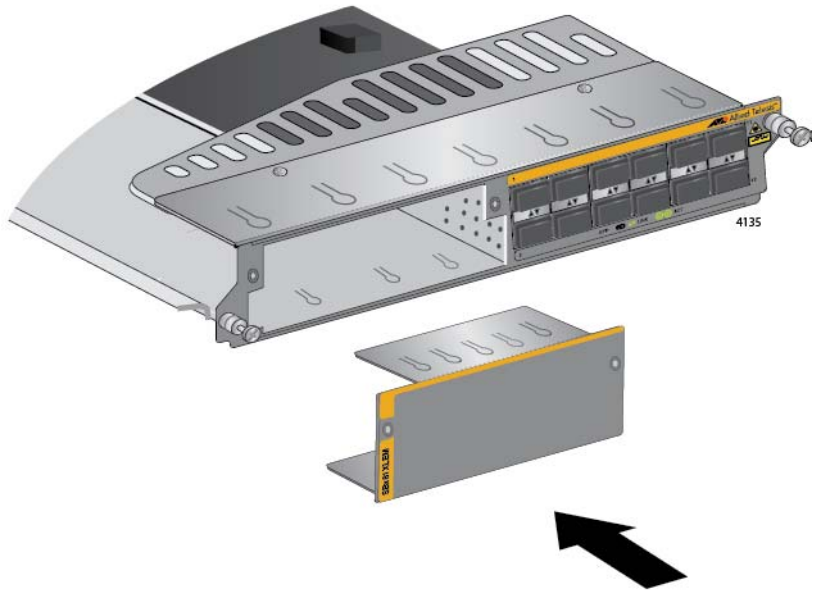

Figure 188. Sliding the Blank Slot Cover into the AT-SBx81XLEM Line Card
9. Slide the blank slot cover that comes with the line card into the module slot on the card. Refer to Figure 188 on page 313.